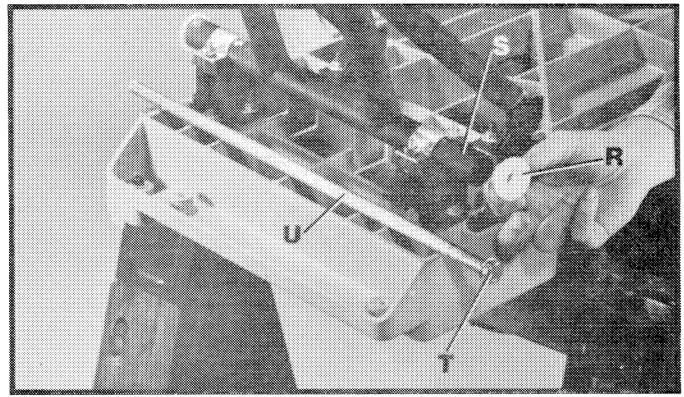

Fig. 5
6. Decide which end of the saw you want the wheels assembled and insert the two nylon bushings, one of which is shown at (R) Fig. 5, to each end of the leg brace (S), as shown.
7. Press push nut (T) onto one end of axle (U), as shown in Fig. 5.